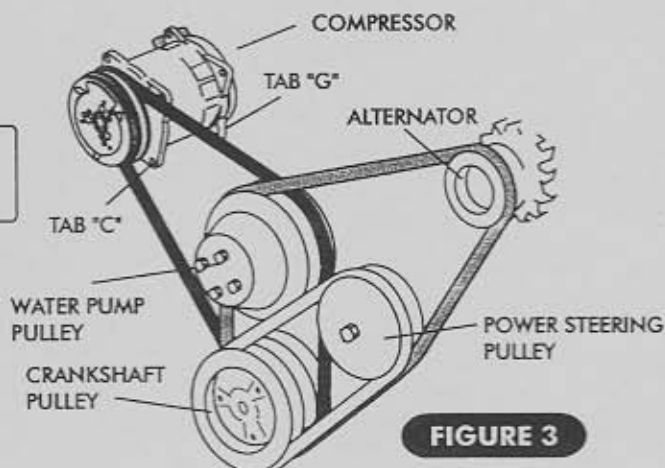

FIGURE 3
- INSTALL COMPRESSOR USING TABS "C" AND "G" AS PIVOT POINTS. SEE FIGURE 3.
BELTS AND PULLEYS (SEE FIGURE 3)